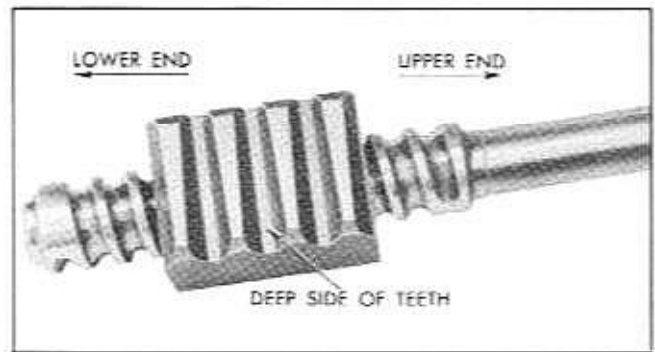

Fig. 9-18 Ball Nut Properly Installed on Shaft
1. Position ball nut on shaft so that deep side of teeth are located as shown in Fig. 9-18.